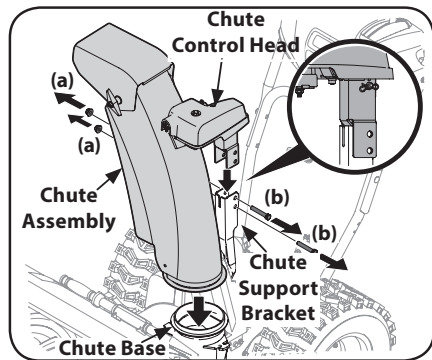

Figure 2-32
1. Remove lock nuts (a) and hex screws (b) from chute support bracket (this will require two wrenches). See Figure 2-32.
2. Place chute assembly onto chute base and chute control head onto chute support bracket. See Figure 2-32.